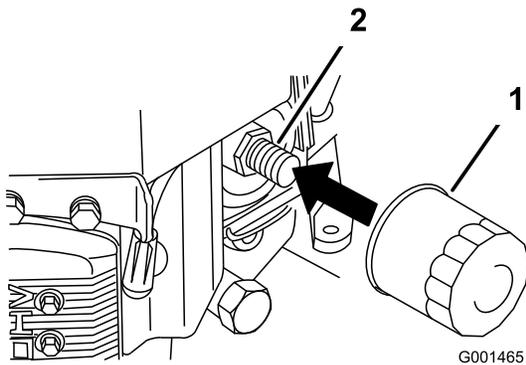

Figure 34
2. Remove the old filter (Figure 34).
3. Apply a thin coat of new oil to the rubber gasket on the replacement filter (Figure 34).
contacts the filter adapter, then tighten the filter an additional 3/4 turn (Figure 34).